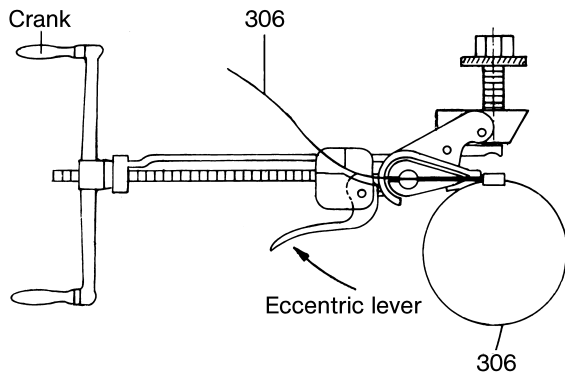

Figure 10: Clamping the clamping band using the Band-It clamping tool and the J050 adapter.
- Use the adapter to insert the end of the clamping band (306) into the clamping tool, as far as the clamping band lock.
- Hold the band end with the eccentric lever of the clamping tool and tighten the clamping band (306) by turning the crank (Figure 10).